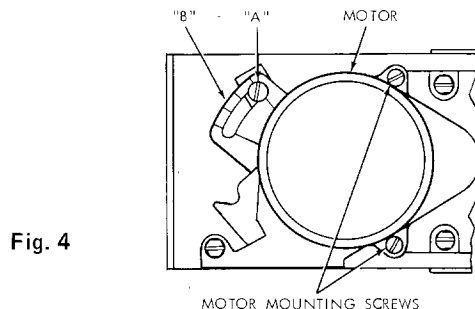
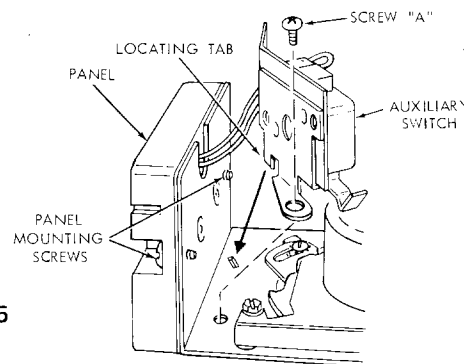

Fig. 4
Fig. 5
3. Remove covers from both old and new valve heads. The new valve head has the Adjustable Flow Dial "B" set for maximum flow (see Fig. 4). If dial "B" of old valve head is at a different setting, loosen screw "A" and change Dial "B" setting of new valve head to match it. Then retighten screw "A".
2. Disconnect leads from power source and remove the two screws holding the motor to the valve. (See Fig. 4)
2. Remove motor mounting screws (Fig. 4), remove auxiliary switch, screw "A" (Fig. 5) and remove panel mounting screws (Fig. 5).
5. Assemble auxiliary switch as shown in Fig. 5.